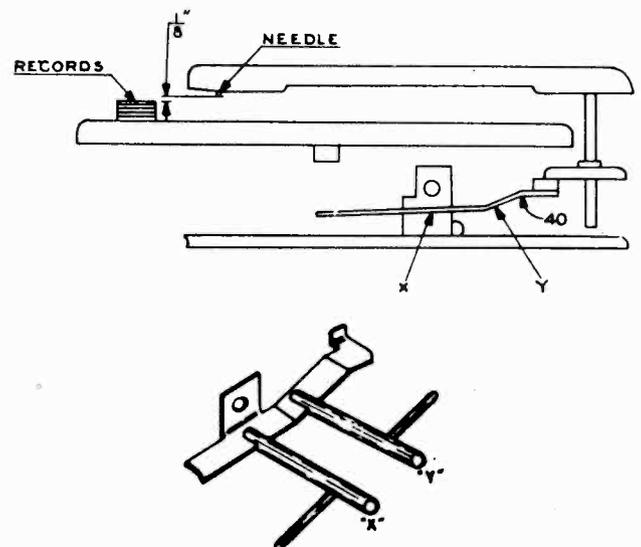

Fig. 4
1. Velocity Trip and Roller Assembly (37) rubbing on Main Cam Actuating Gear (36).
2. Manual Trip Lever (65) binding.
3. "Disengage Roller" broken on Velocity Trip and Roller Assembly (37).
The vertical movement of the pickup arm is controlled by the angle of the Pickup Arm Raising Lever (40), Fig. 4. The needle should approach the top record of a full stack of 10" records on the turntable with approximately  $\frac{1}{8}$ " clearance.
3. Be sure the notch in the Pickup Arm raising disc (34) engages the pickup arm raising lever (40).
4. If the needle does not clear the top record or if it raises too high, adjust by bending the pickup arm raising lever at the point indicated in Fig. 4.